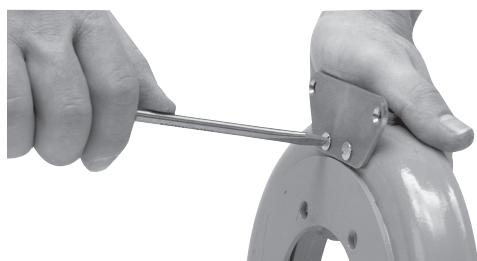

Figure 2
- Step 2 Assemble a 1/2" flexible conduit fitting into the desired end of the conduit box (3). If the grounding nut on this conduit fitting is tightened after the conduit box is installed on the magnet or field, avoid using excessive tapping force, which could damage the mounting. (Step 6)
- Step 3 Mount conduit box (3) to the bracket (1). The conduit box flange must be toward the back of the clutch or brake. Secure the box with two No.10-32 hex. washer head screws (4). (See Figure 2)